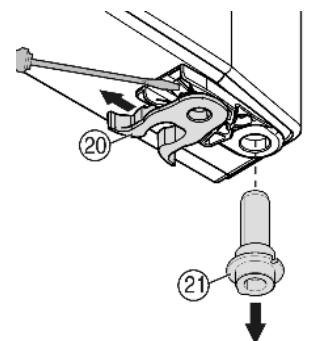

Fig. 9
- Transfer the spring clamp *Fig. 9 (20)*: Depress the latch nose and pull the spring clamp off over it.
- Pull the bearing pin *Fig. 9 (21)* out of the door bush and transfer it to the opposite side together with the washer. The latch nose must point to the inner side of the door, the notch to the outer side.
- Swing the door in at the bottom and insert the bearing pin *Fig. 9 (21)* into the turn hinge. If necessary, turn the bearing pin until it snaps into place.